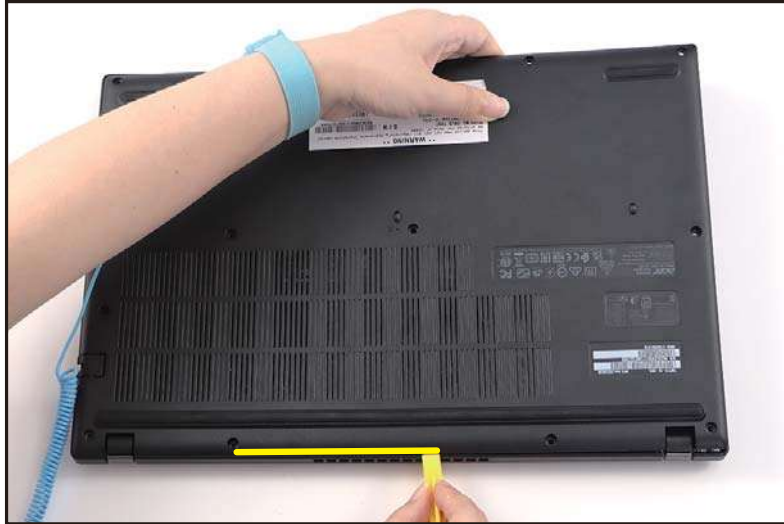

Figure 3-6. Base Cover Removal
3. Continue prying the bottom side to release the latches (Figure 3-6).
4. Carefully lift the base cover to release the remaining latches. Then remove the base cover from the system (Figure 3-6).